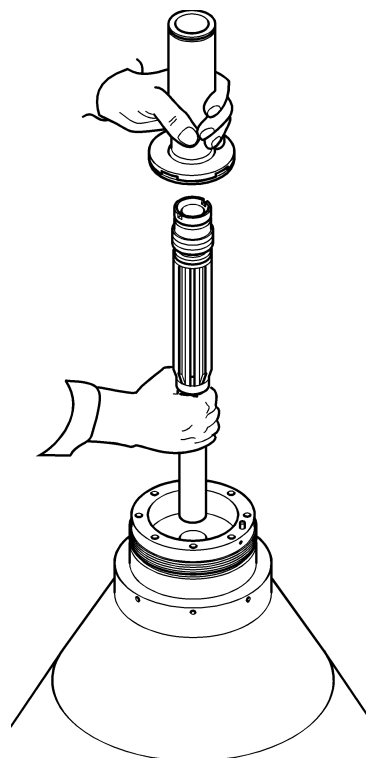

Figure 6.23
- 19) Insert the **feeding pipe** of product and the **cream centripetal pump** (fig. 6.23).